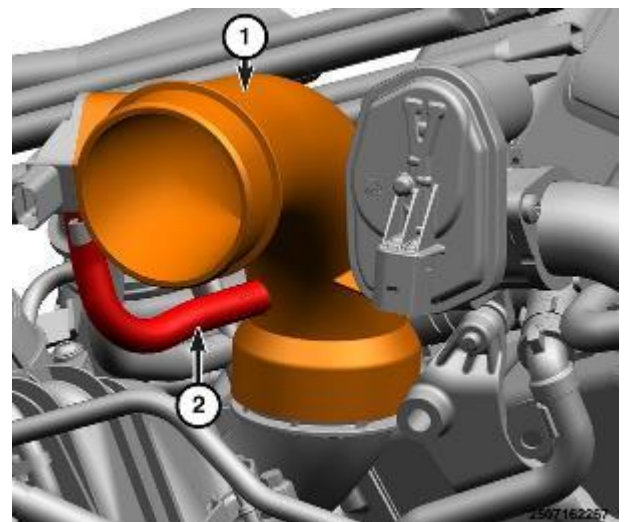

Figure 29 – Differential Pressure Sensor Hose
- 57. Remove the differential pressure sensor hose (2) from the upper turbocharger inlet elbow and remove the upper turbocharger inlet elbow (1) from the lower turbocharger inlet elbow (Figure 29).